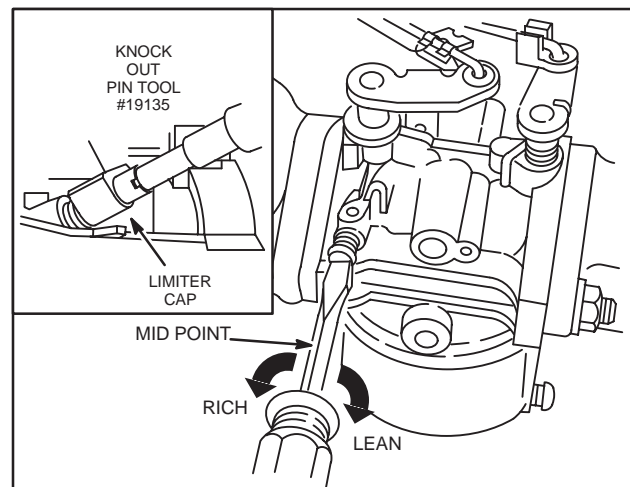

Fig. 25 – Adjusting Idle Mixture
4. Turn idle mixture screw to mid point between rich and lean, Fig. 25.
- a. Position limiter cap so that stop(s) on limiter cap are at mid point between stop(s) on carburetor body and press into position as shown in, Fig. 25.